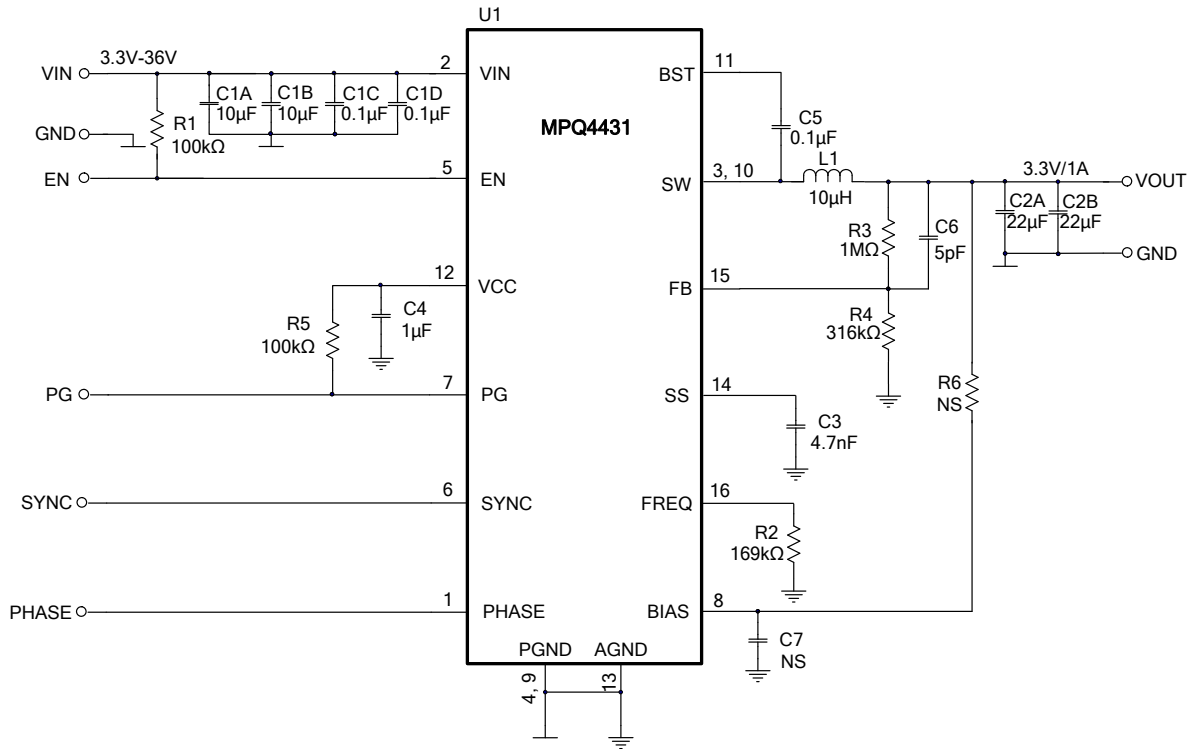

Figure 9: $V_{OUT} = 3.3V$, $I_{out} = 1A$, $F_{sw} = 500kHz$
- 6) The recommended PCB layout is based on Figure 9 through Figure 16.